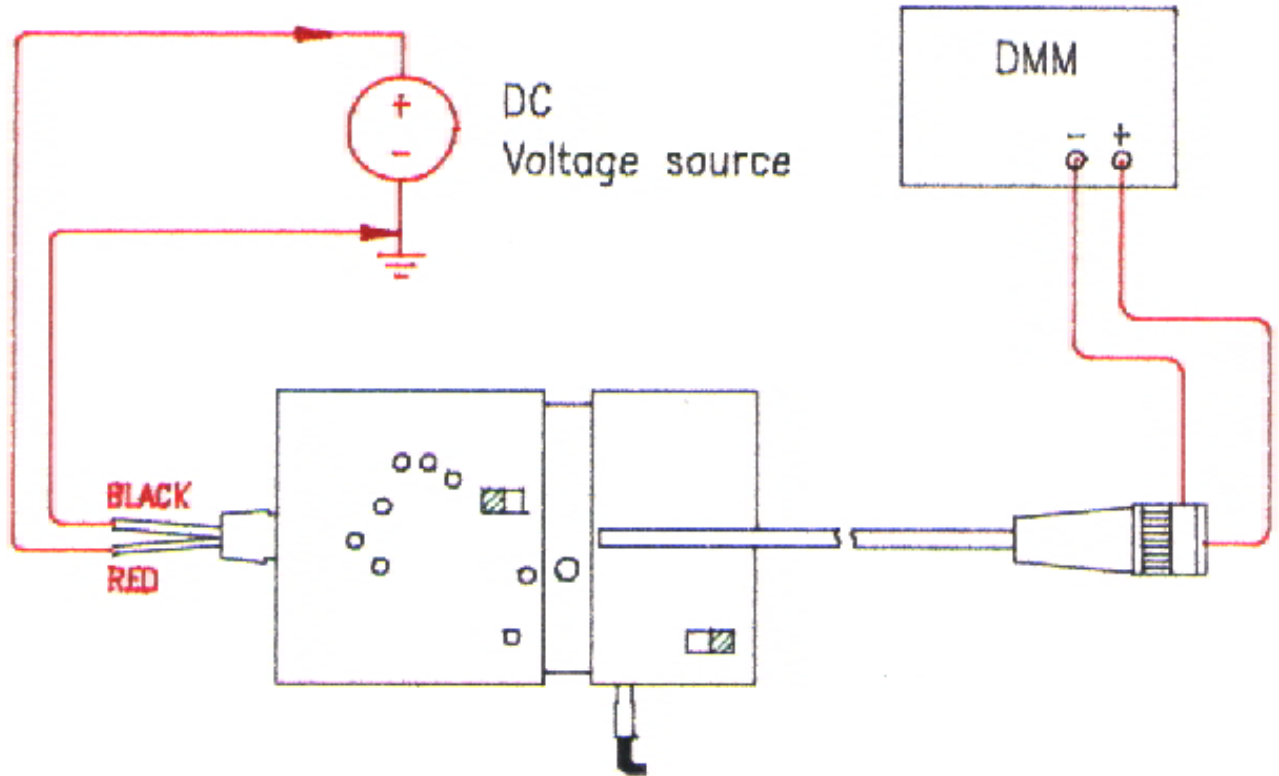

Fig. 13
- a. Referring to Fig. 13, connect output BNC to a DMM.